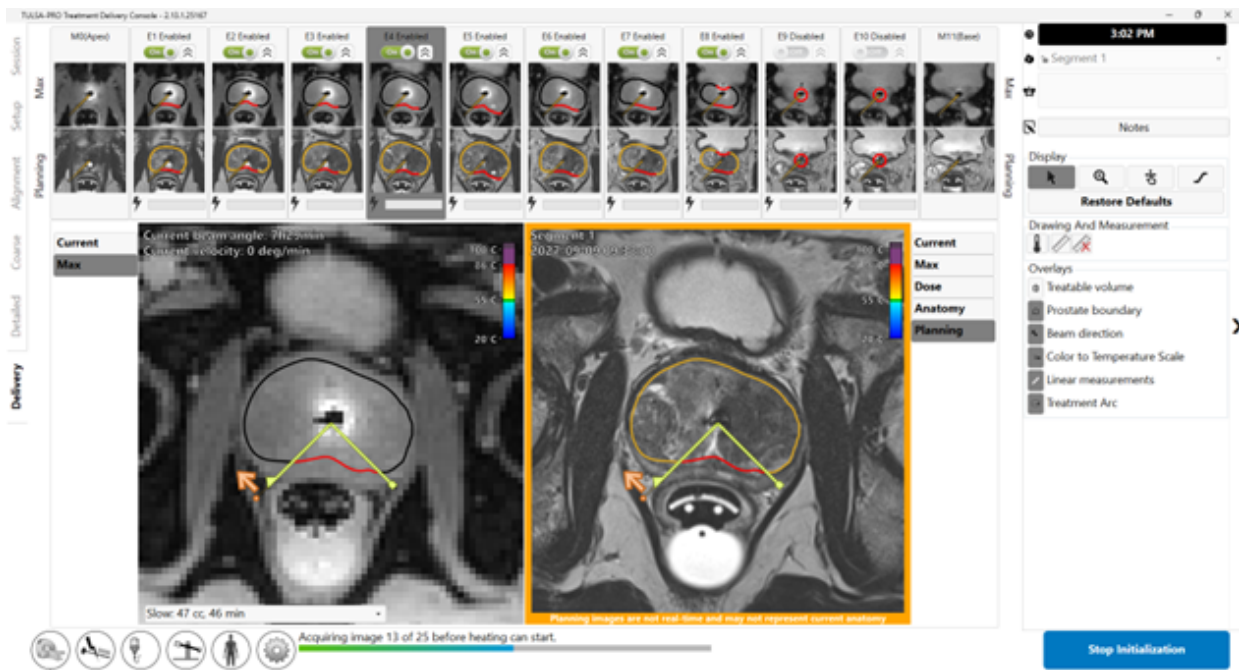

Figure 49: Treatment Initialization state
receive thermometry images (*Figure 49*).
2. **Radiologist:** Click **Start treatment** on TDC. It will prompt you to verify the core body temperature using an external temperature measurement device before proceeding. Enter the temperature in degrees Celsius and click **Confirm**. The TDC will go into **Treatment Initialization** state and will start the thermometry scan on the MR console (*Figure 49*).